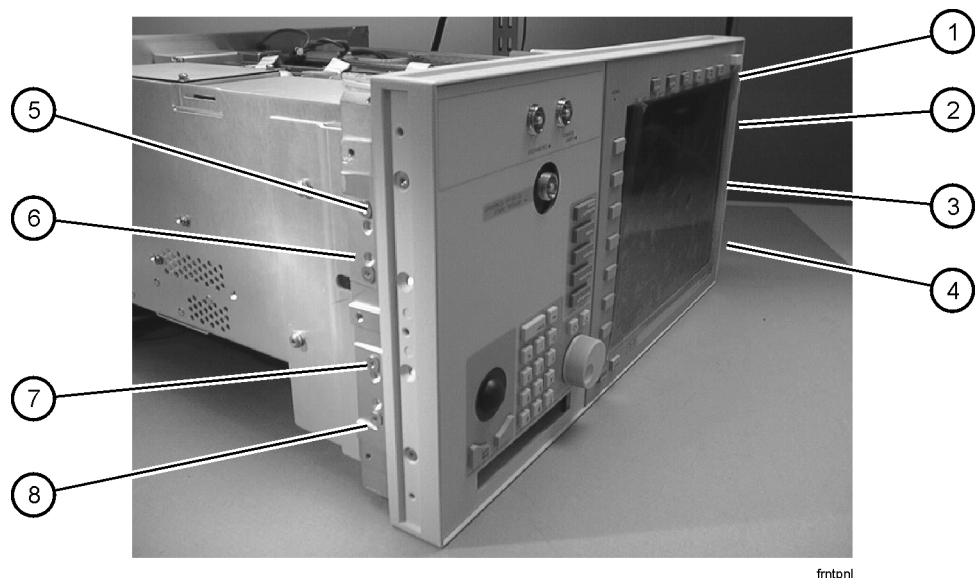

Figure 3-17. Attaching the front panel to the chassis
- 6 Using a T-15 TORX driver (on newer models, use a T-20 TORX driver), remove four screws from each side of the front panel. See ① through ⑧ in Figure 3-17 below.
- 5** Using a T-15 TORX driver (on newer models, use a T2-20 TORX driver), remove two screws from each side of the front panel. See ① through ④ in Figure 3-17 below.